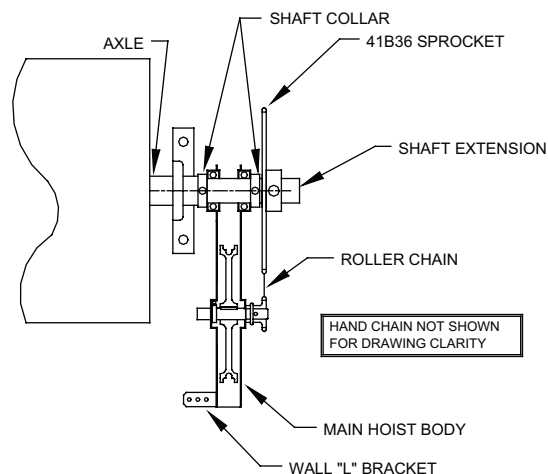

Figure 13
9.3 Reduced-drive operator (Figure 13)